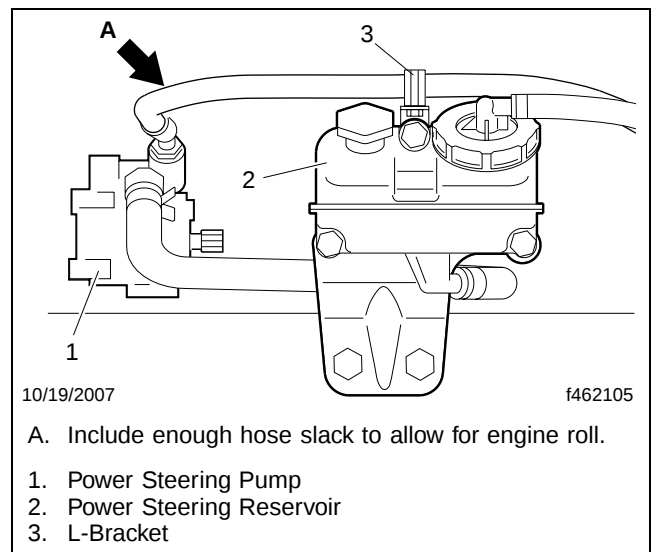

Fig. 8, Hose Routing To Pump (S60 Shown)
42. Install and route the new pressure line from the frame-mounted hose bracket to the pump, and include extra hose between the L-bracket on the top-mount of the reservoir and the pump to allow for engine roll. See **Fig. 8**. Tighten the fitting 42 to 52 lbf·ft (57 to 70 N·m).
45. Using hose clamps, install the new power steering pump suction line on the reservoir and pump. See **Fig. 8**.